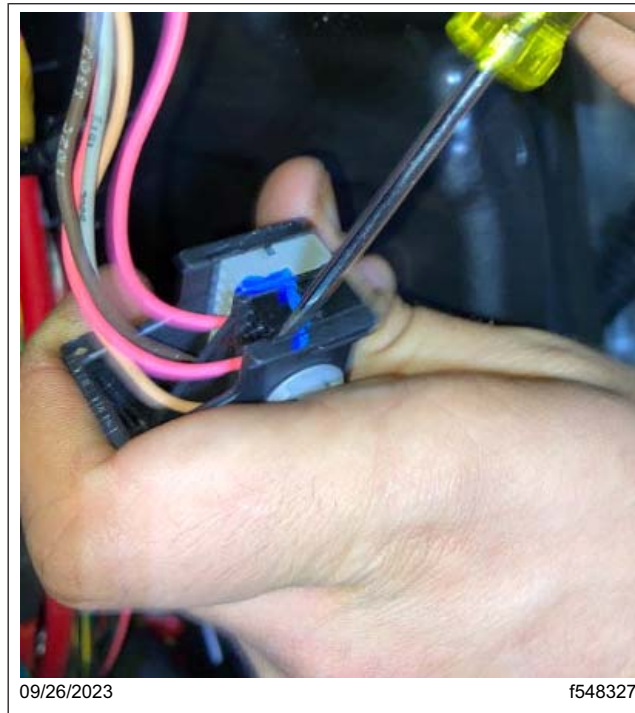

Fig. 50, Releasing the Black Terminal Bank
19. Insert a small flat screwdriver in between the locking tab for the black terminal bank and gently pry up on the black terminal bank until it clears the locking tab. See Fig. 50 .